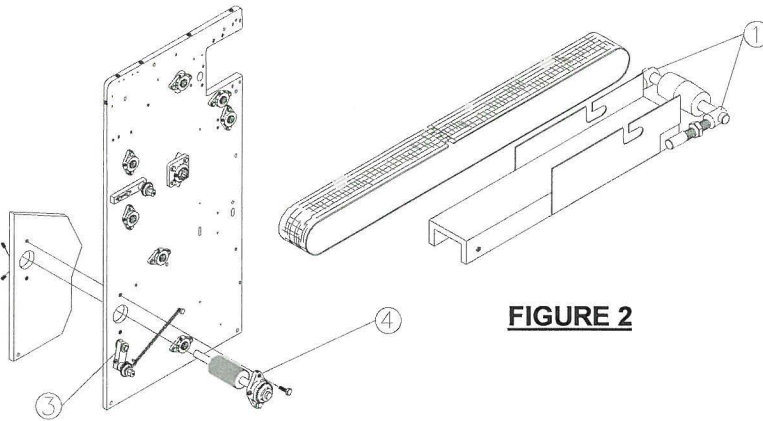
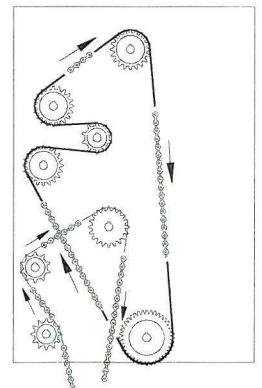

FIGURE 2
FIGURE 3
- I. TO LOOSEN THE BELT FOR REMOVAL FIND (PART NO. 600SC) ROLLER SUPPORT BOLTS WITH (PART NO. F0601HN) ADJUSTING HEX NUT. TURN ADJUSTING HEX NUT COUNTER CLOCK-WISE. THIS IN TURN WILL BRING IN THE ROLLER AND LOOSEN THE BELT. THIS PROCEDURE MUST BE DONE TO BOTH SIDES OF THE BELT. (SEE FIGURE 2).
- III. LOCATE (PART NO. K203RS-1 TENSION BLOCK (ITEM #43) ON LEFT SIDE ASSEMBLY. RELEASE TENSION SPRING (PART NO. K120LS) (SEE FIGURE 2). THIS WILL ALLOW SLACK IN THE CHAIN (PART NO. K125LS) (ITEM #56) ON LEFT SIDE ASSEMBLY. NOW LOCATE MASTER-LINK IN CHAIN, REMOVE AND REMOVE CHAIN FROM AROUND SPROCKETS. (SEE FIGURE 3).
- IV. LOCATE THE FLANGE BEARING (PART NO. VF2S-212) (ITEM #2) ON LEFT SIDE ASSEMBLY THAT THE DISCHARGE CONVEYOR END SHAFT (PART NO. RK148-011 (ITEM #17) ON DISCHARGE CONVEYOR ASSEMBLY IS GOING THRU. REMOVE THE TWO (2) HEX HEAD BOLTS THAT HOLD THE FLANGE BEARING TO THE LEFT SIDE PANEL. (SEE FIGURE 2).
SWITCH TO THE RIGHT SIDE PANEL AND DIRECTLY ACROSS IS THE OTHER FLANGE BEARING THAT THE END SHAFT (PART NO. RK148-011) IS GOING THRU. (SEE FIGURE 2). LOOSEN THE TWO (2) SET SCREWS ON THE BEARING (NOT THE TWO (2) HEX BOLTS!). NOW TAKE A RUBBER Mallet AND GENTLY HIT THE END OF THE SHAFT TO PUSH IT THRU TO THE LEFT SIDE. REMOVE ENTIRE ROLLER ASSEMBLY AND PLACE IT NEXT TO MACHINE IN A CLEAN AREA.